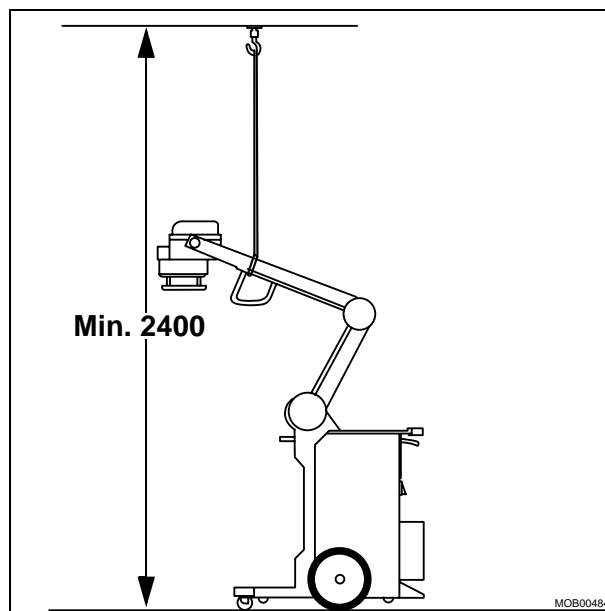

Fig. 26
- Raise the single tank to maximum height and secure it with a ceiling support (Fig. 26).